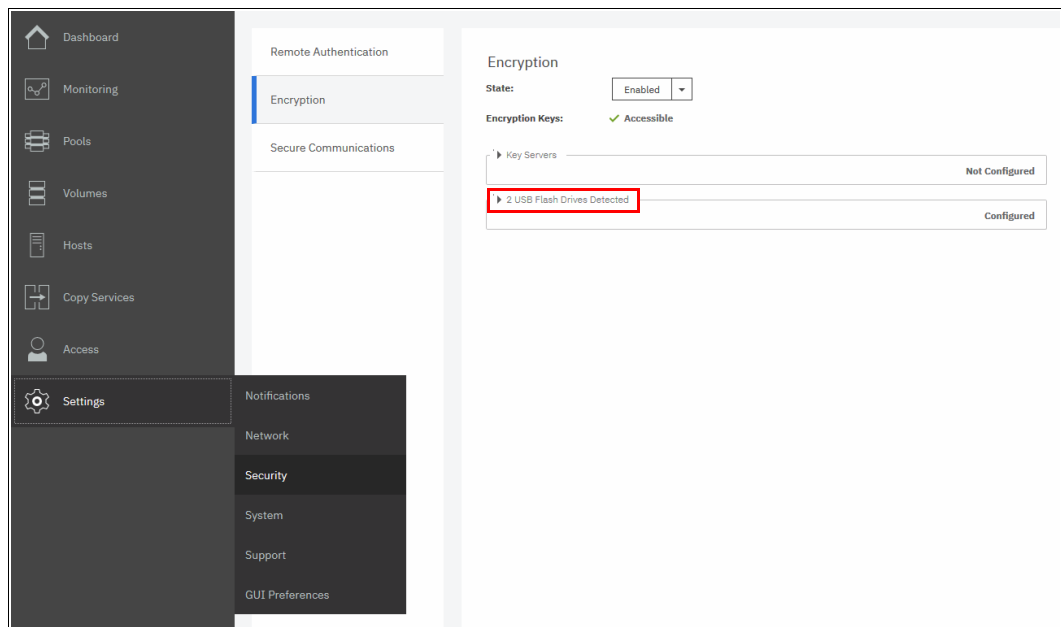

Figure 13-86 Locate USB Flash Drive section in the Encryption view
1. Click **Settings** → **Security** → **Encryption**. Click **USB Flash Drives** to expand the section, as shown in Figure 13-86.